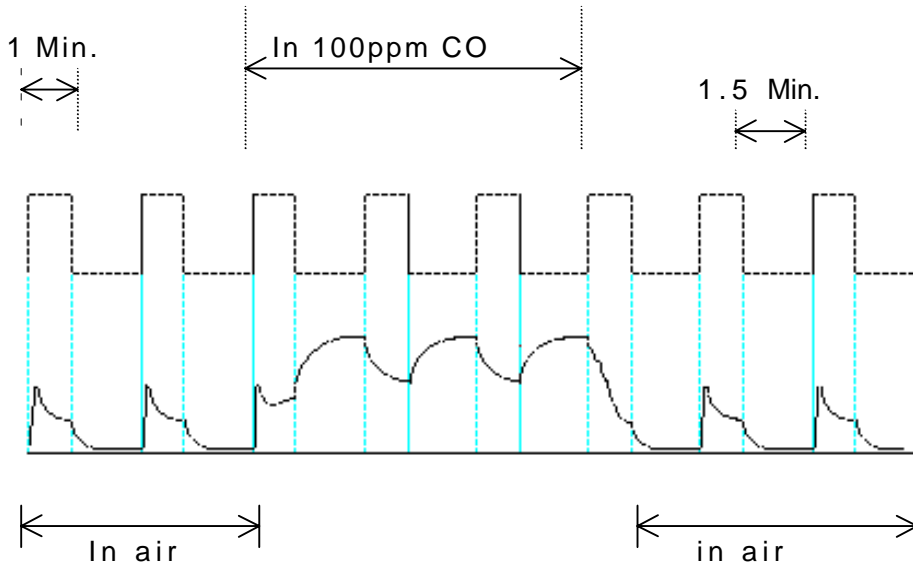

Fig. 4
Base on Fig. 2 circuit, Fig. 4 is the signal output curve when the sensor is moved form clean air to carbon monoxide (CO) gas environment. Those data was measured after heating period 2.5 minute from high voltage to low voltage.